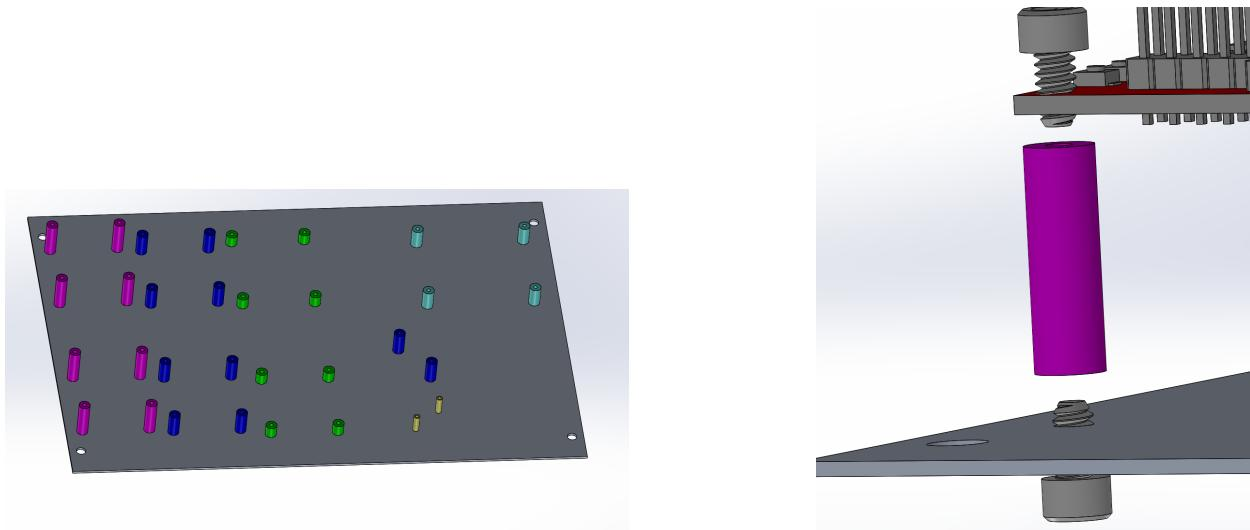

Figure 7: Electronics Board Step 1
- 1. Attaching the Standoffs** There are a few different standoffs here. By using different standoff heights, we gain access to the micro USB port on each of the individual Robo-Claws. The Raspberry Pi also has its own metric standoffs. In Figure 7, the colors